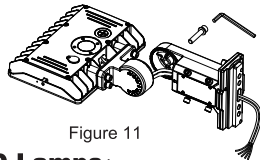

Figure 11
Step 2: Pass the input wire of the fixture through the bracket(Figure 11);